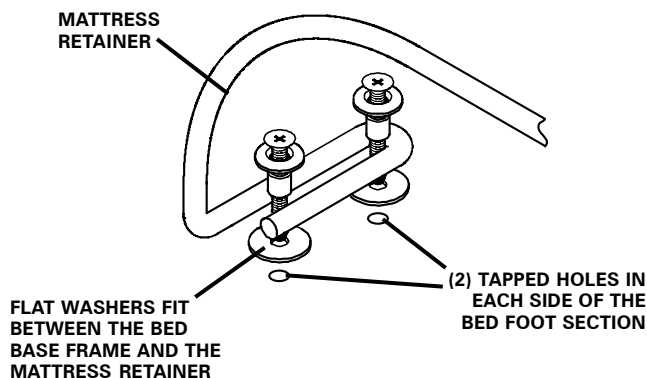

FIGURE 5: Mattress retainer installation
- b. Install the mattress retainer bolts (loosely) into tapped holes in the foot section of the bed base frame (FIGURE 5).
- c. Slide each U-shaped end of the mattress retainer around the mattress retainer bolts. Position the retainer ends between the spacer and the washer (FIGURE 5).